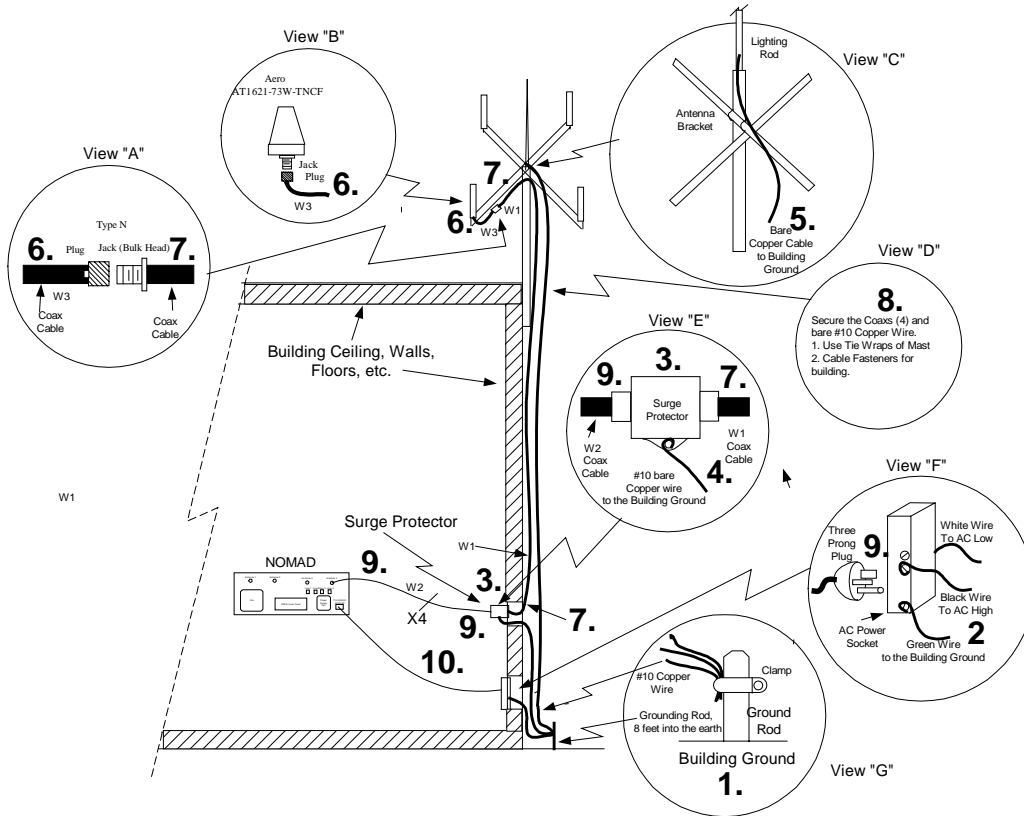

Figure 4.3-1: MXU Console Interconnections
Step 1. Locate the “Building Ground”. It is extremely important to ground the antenna assembly, surge protectors, and power outlet to the central building ground. If not properly grounded, a nearby lightning strike can easily damage the MXU system and can cause personal injury or death. In figure 4.3-1 the building ground is illustrated, in view G, as a ground rod. **If any doubt exists as to the location of the building ground consult with a local certified electrician.**